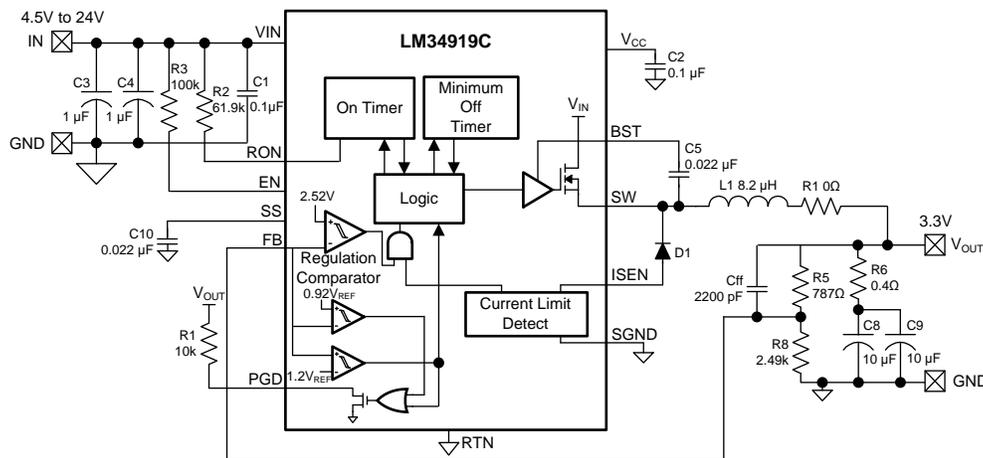

Figure 3. Intermediate Ripple Configuration
**Option B) Intermediate Ripple Configuration:** This configuration generates less ripple at  $V_{OUT}$  than option A above by the addition of one capacitor ( $C_{ff}$ ) across R5, as shown in Figure 3.
where tON(max) is the maximum on-time (at minimum VIN), and R5//R8 is the parallel equivalent of the feedback resistors. See Figure 3.